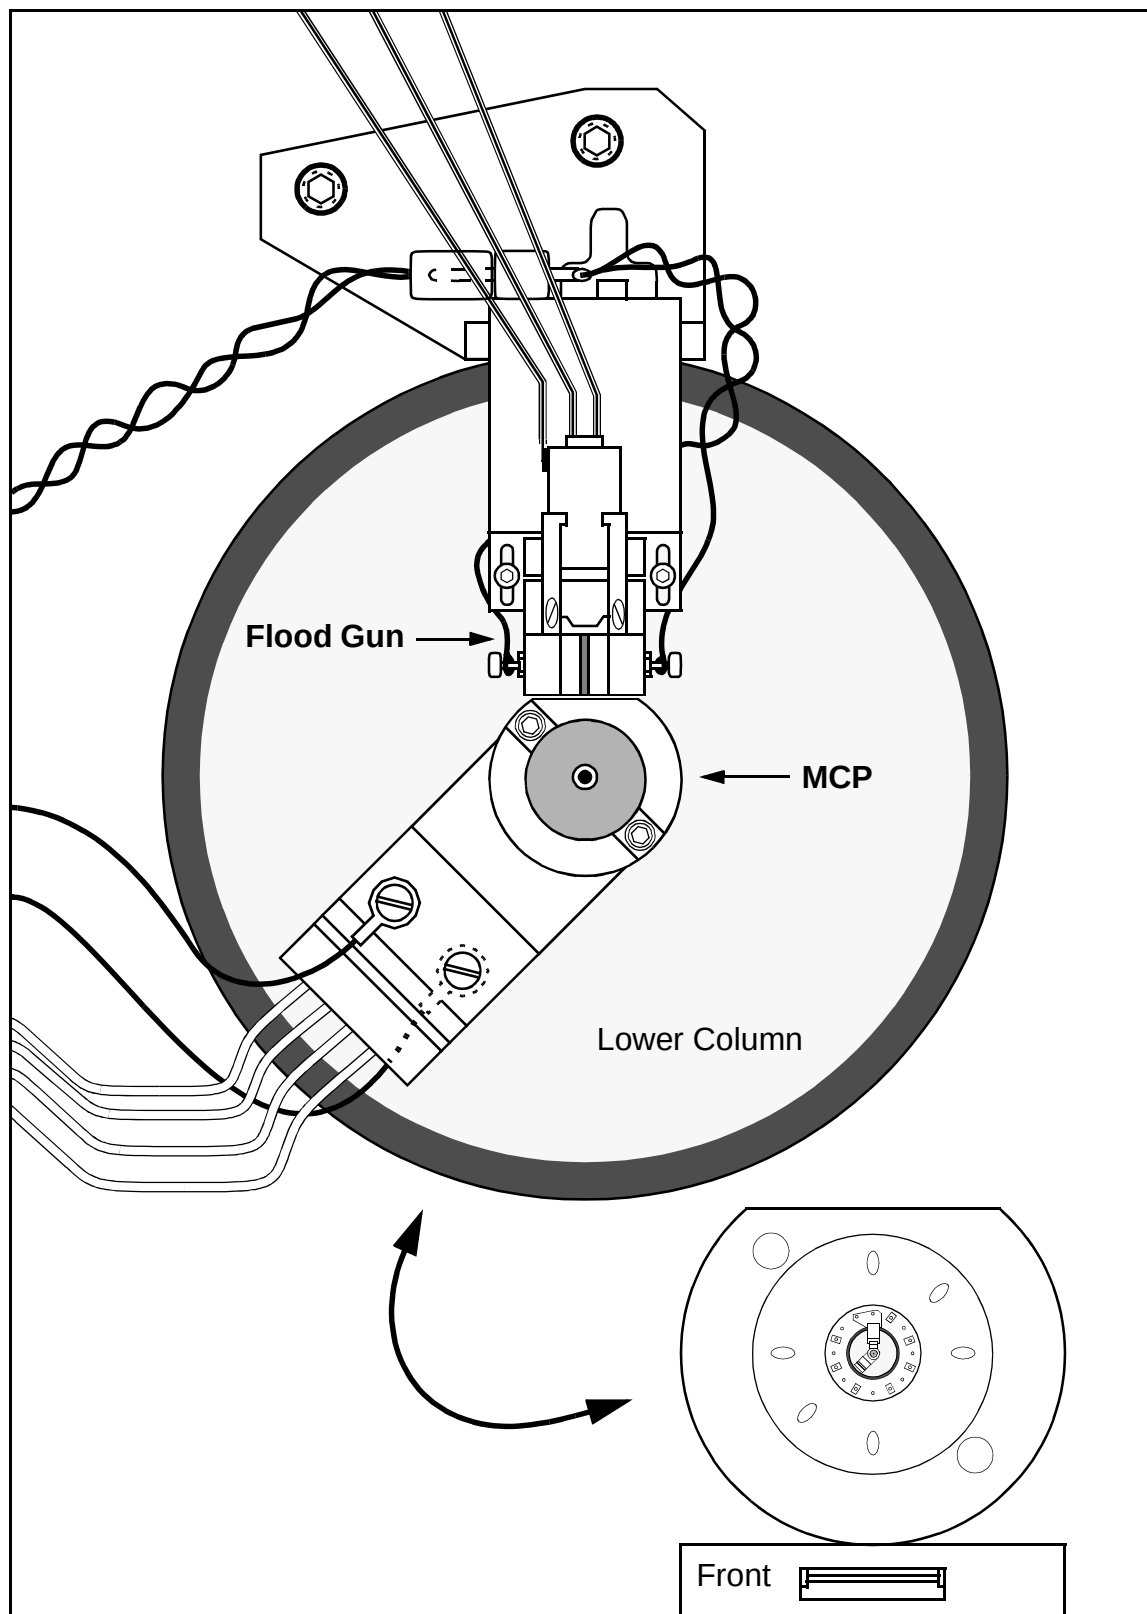
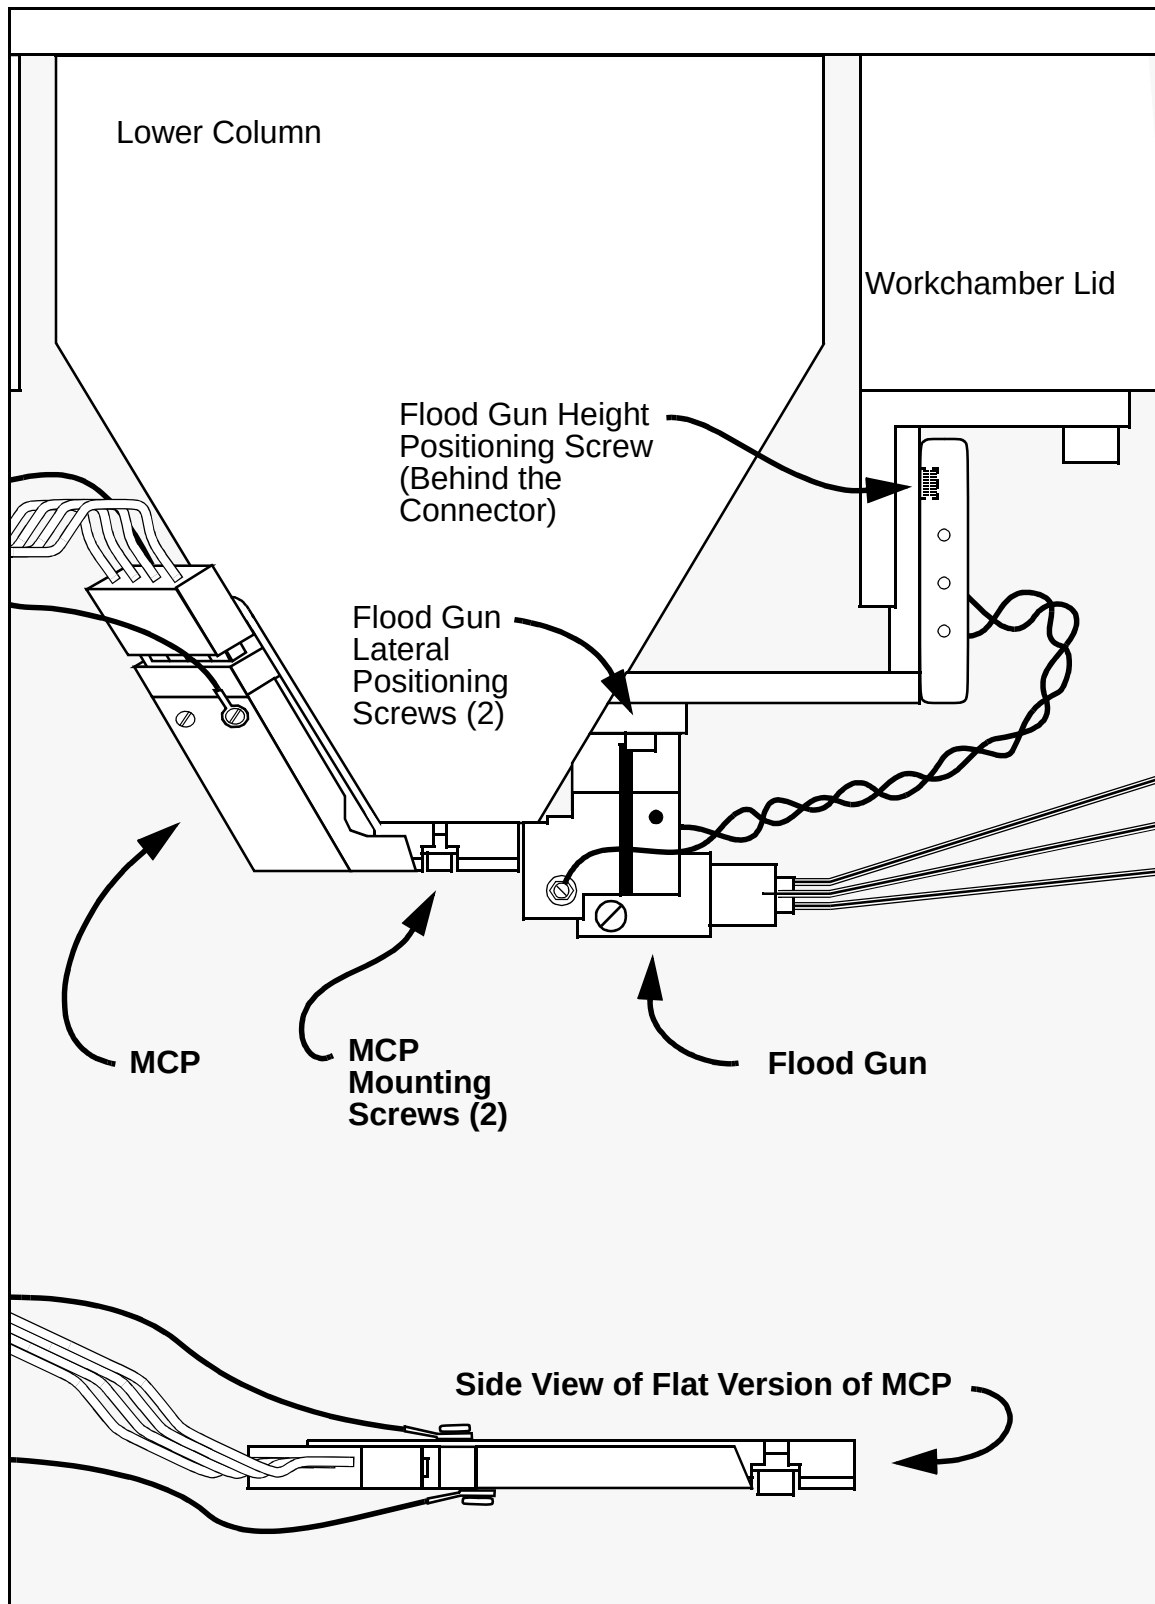
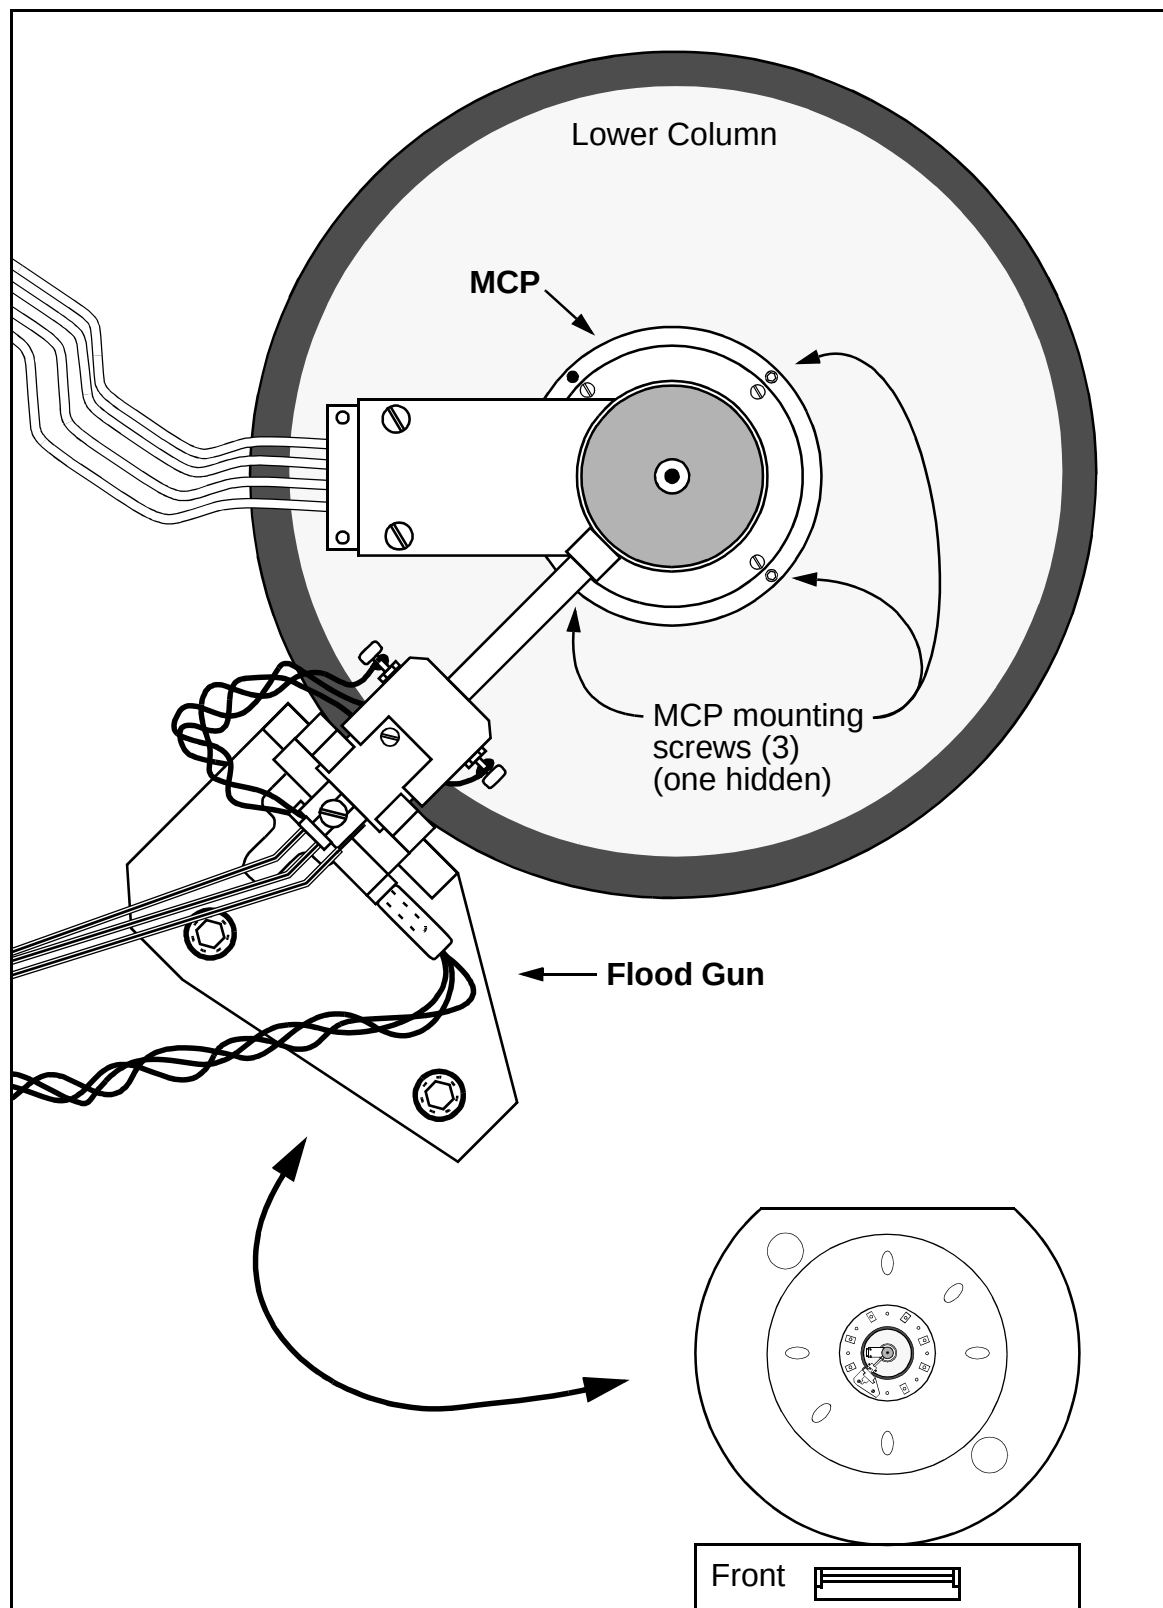
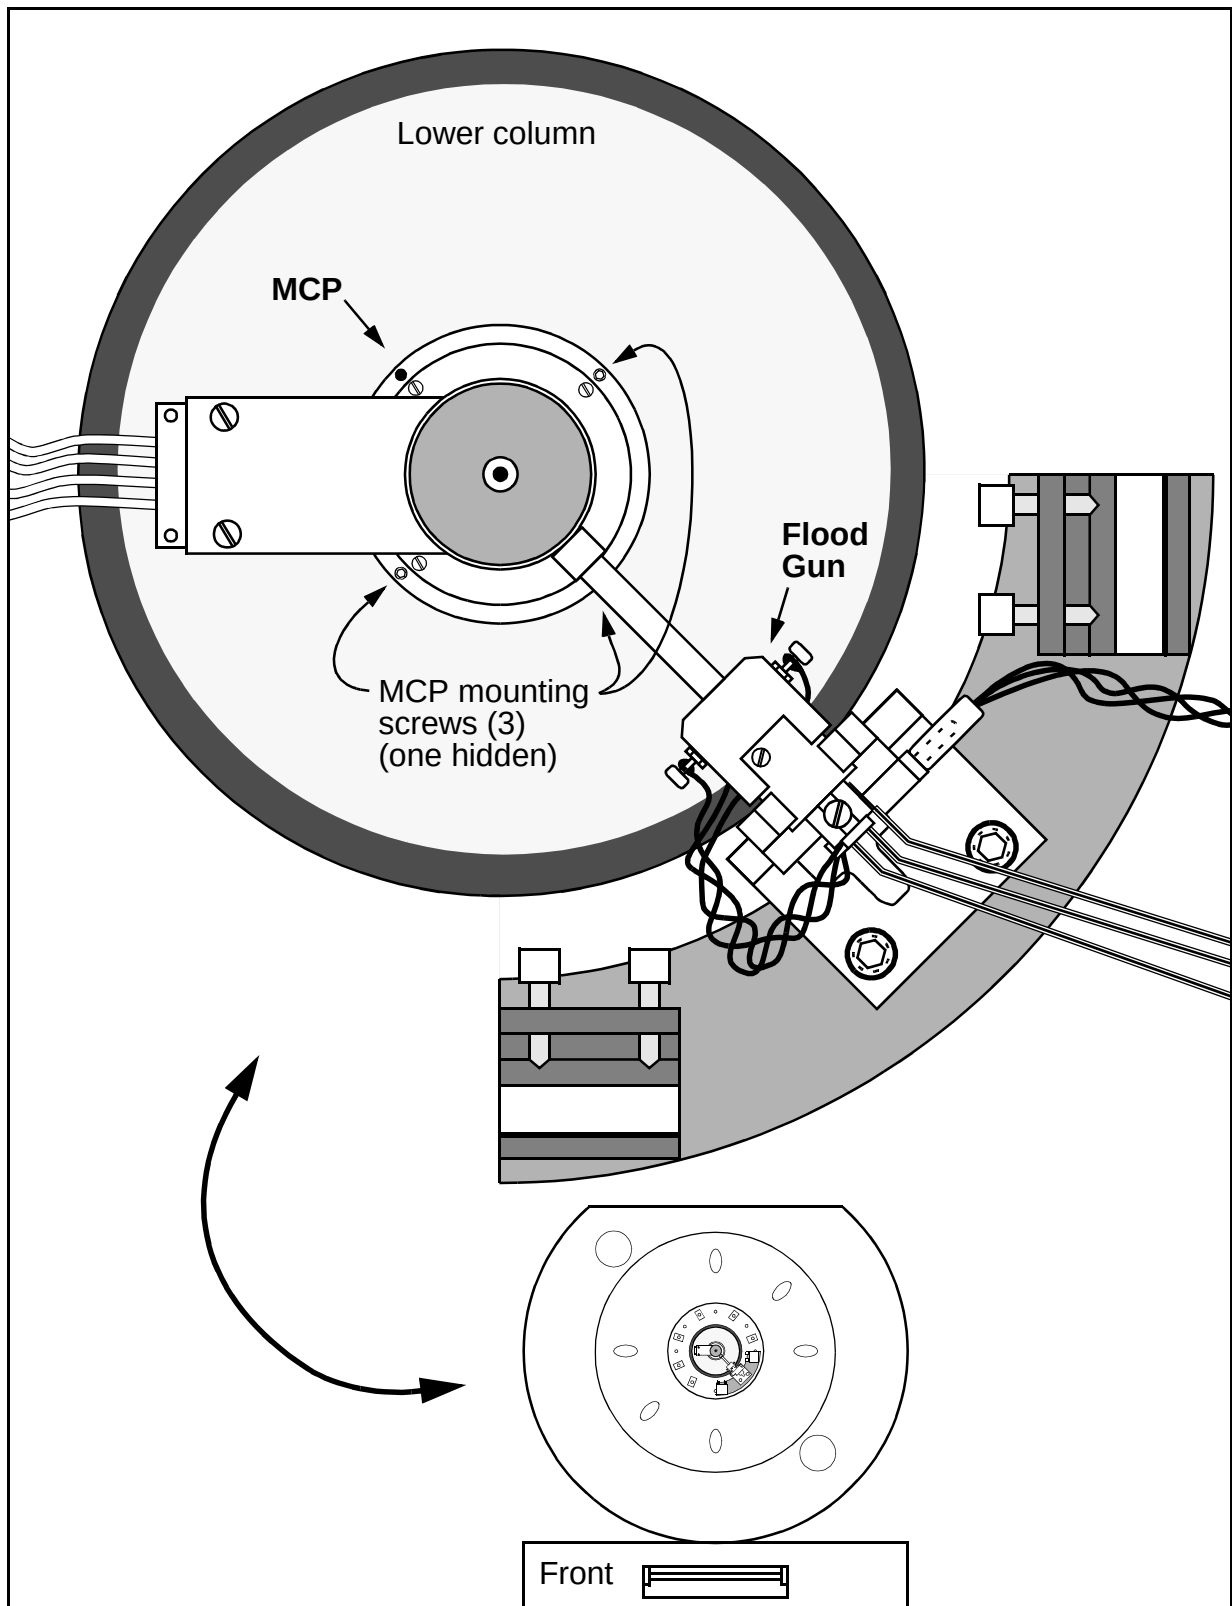

Figure 1. Flood Gun Without Snout and Small MCP: Interior View
Figure 2. Side View of Flood Gun Without Snout and Small MCP(s)
Figure 3. Flood Gun With Snout and Large MCP: Interior View
Figure 4. Flood Gun With Snout and Large MCP in 9800 System: Interior View
- 2-1. After the system has vented, open the workchamber. Two types of flood gun/MCP configurations are installed in FIB systems with 5 nm columns: a flood gun without a snout combined with a small MCP^[1] (as shown in Figures 1 and 2), and a flood gun with a snout paired with a large MCP^[2] (as shown in Figures 3, 4, and 5).
[1] There are two styles of small MCP: flat and angled (see Figure 2). Both styles have the same fasteners and electrical connectors.
[2] There are two configurations of the flood gun with a snout and large MCP combination (see Figures 3 and 4). In a 9800 series system (as shown in Figure 4), the flood gun is rotated 90° to accommodate the installation of an optical microscope.
- 3-3.** Slide the flood gun subassembly up until it contacts the lower column. Make sure that the flood gun is aligned with (points directly at) the center bore of the MCP (see Figures 1, 2, 3, 4, and 5). Tighten the flood gun height positioning screw (see Figures 2 and 5).